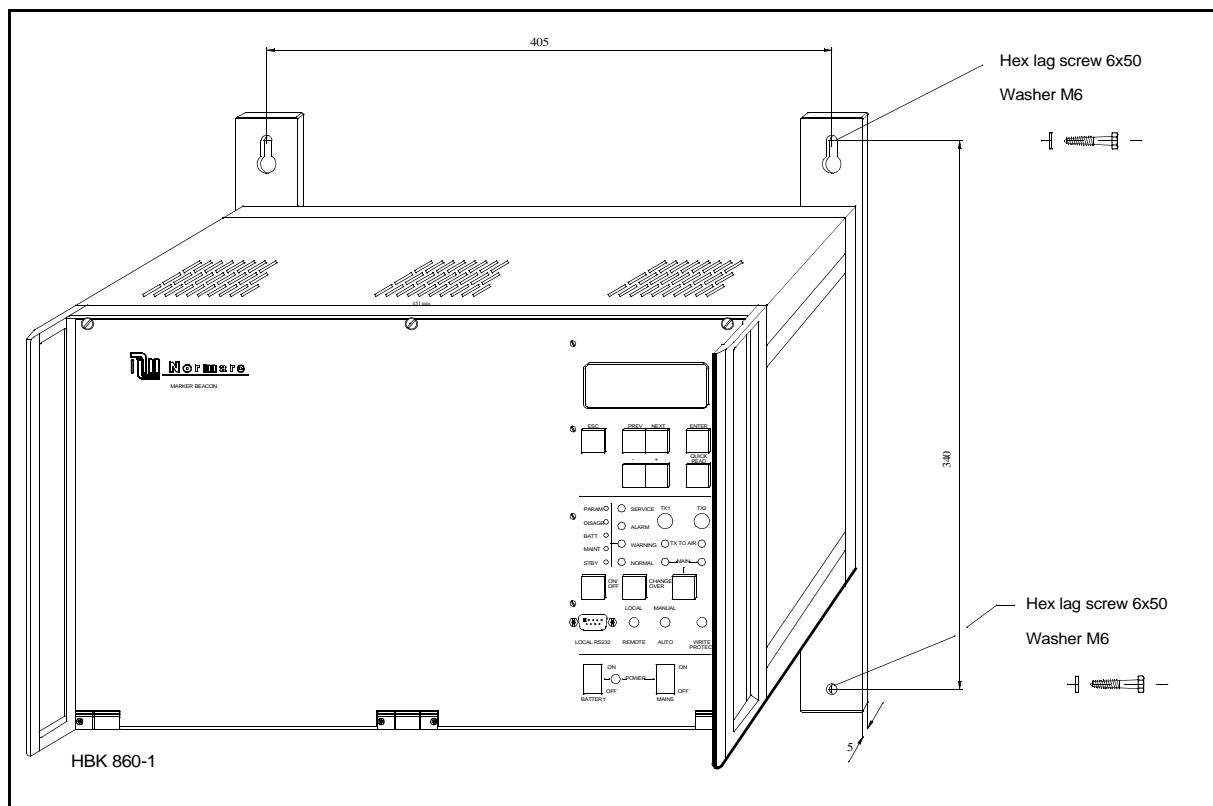

Figure 4-1 Mounting the cabinet on a wall.
- First drill the holes according to Figure 4-1.